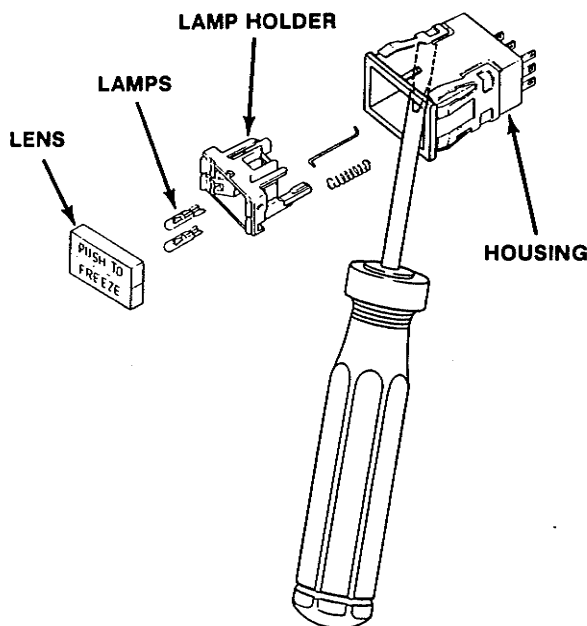

Figure 55. Light Switch Removal
4. Take a common screwdriver and place as shown in Fig. 55, then use the heel of your hand to drive the screwdriver thru the plastic forcing off the retainers. Repeat procedure on opposite side.